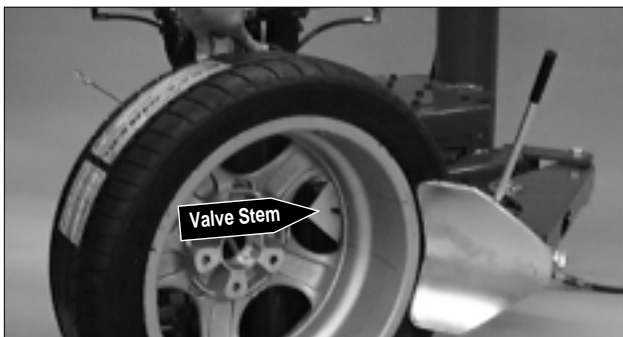

Figure 24 - Loosen Bottom Bead
3. Loosen bottom bead, starting with valve stem positioned directly next to the loosener shoe (Figure 24).